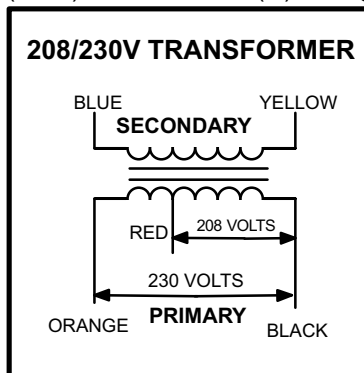

FIGURE 3
All units use a T1 line voltage to 24VAC transformer mounted in the control box. Transformer supplies power to control circuits in the unit. The transformer is rated at 70VA and is protected by a 3.5 amp circuit breaker (CB8). The 208/230 (Y) voltage transformer has two primary voltage taps as shown in figure 3. Units will be factory wired for 230V (orange and black). 208V (red and black) applications must be re-wired in the field.